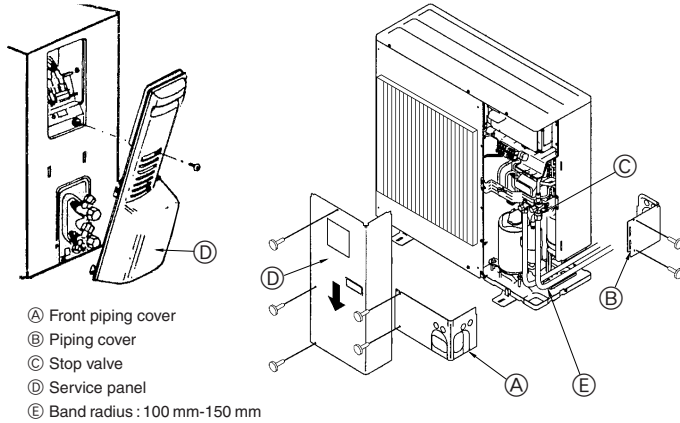

Fig. 4-3
- (K) Handle
4.3. Refrigerant piping (Fig. 4-3)